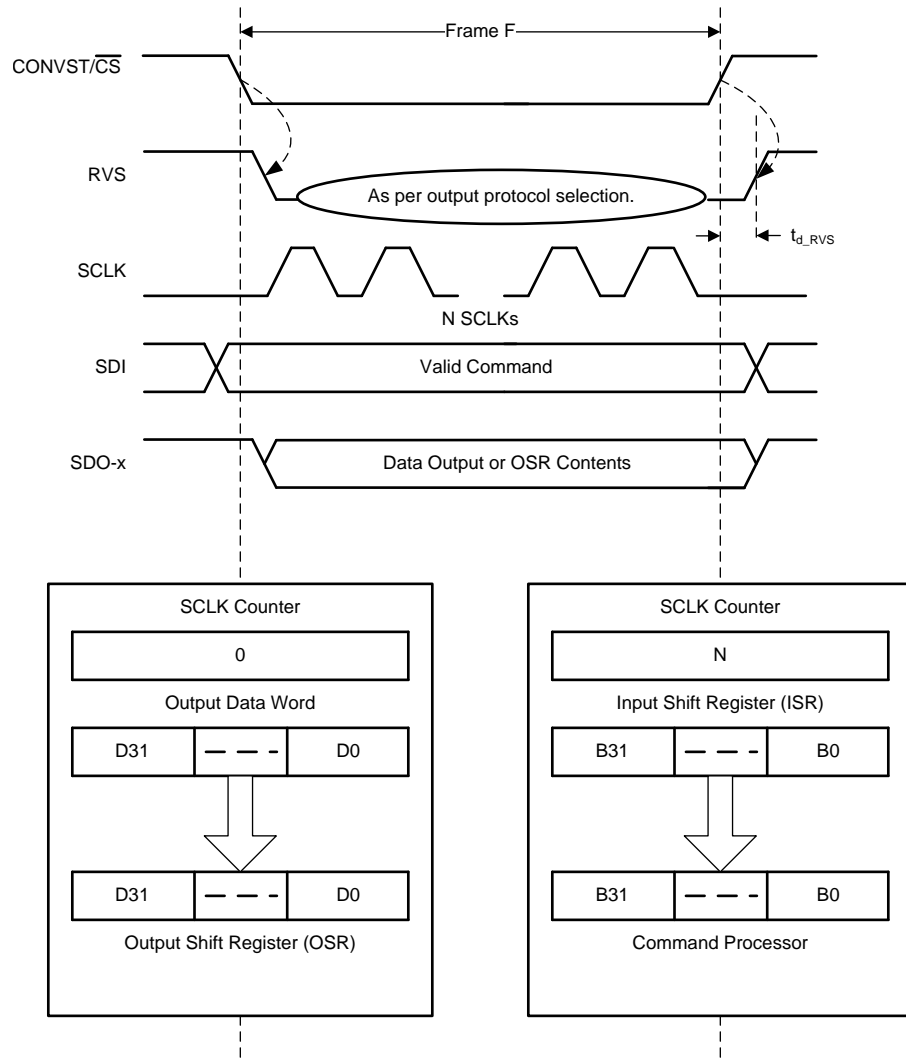

Figure 75. Data Transfer Frame
A data transfer frame between the device and the host controller begins at the falling edge of the CONVST/ $\overline{\text{CS}}$  pin and ends when the device starts conversion at the subsequent rising edge. The host controller can initiate a data transfer frame by bringing the CONVST/ $\overline{\text{CS}}$  signal low (as shown in Figure 75) after the end of the CONV phase, as described in the CONV State section.
- The device takes control of the data bus. As illustrated in Figure 75, the contents of the output data word are loaded into the 32-bit output shift register (OSR).
- As illustrated in Figure 75, the contents of the input shift register are transferred to the command processor for decoding and further action.